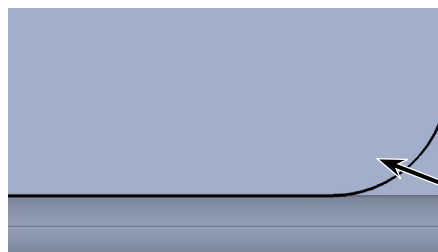

Fig. 31
and rear edge (3), **Fig. 31**